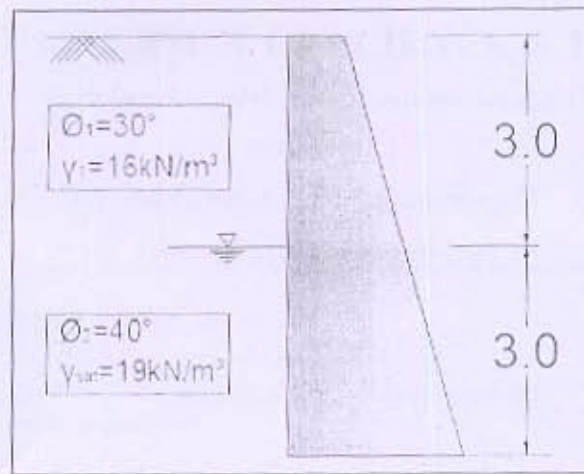

Figure-1
- Q - 3 (a) For the retaining wall shown in figure-1, assume the active condition. Use Rankine's [05]